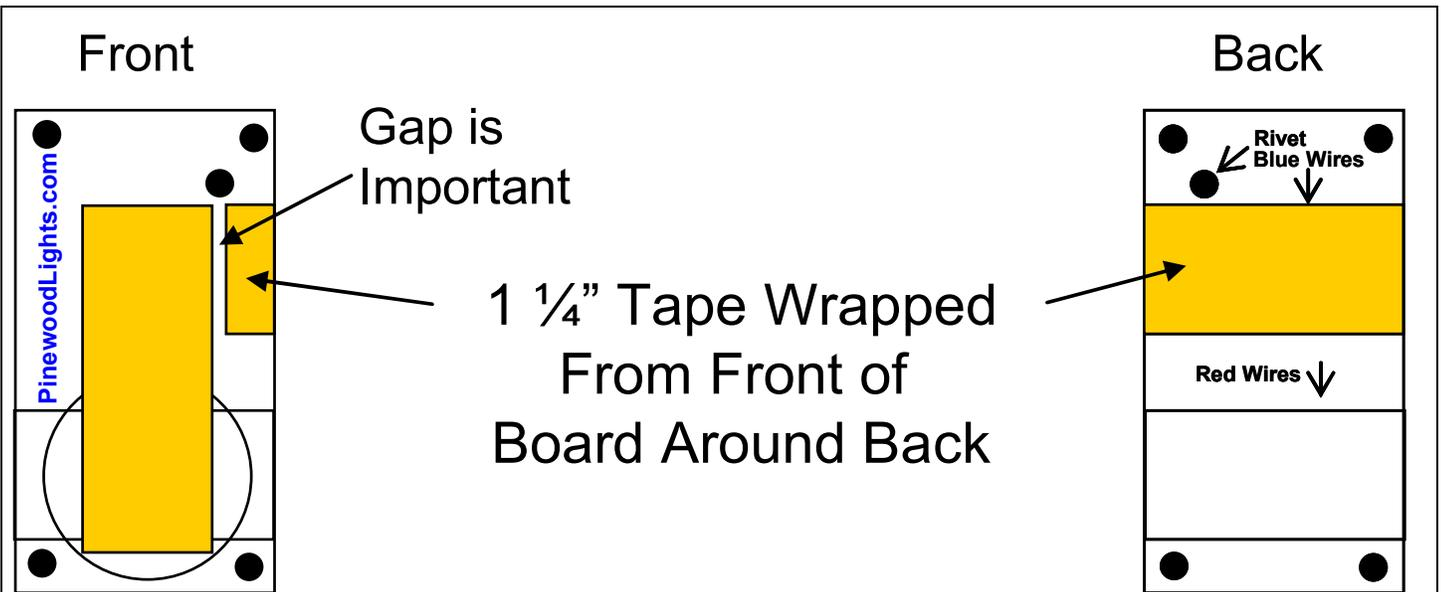

Figure 9.
Step 2: Cut a second piece of copper tape 1 1/4" long, remove the backing and place it as shown in Figure 9. Start at the top left corner of the tape on the front side near the gap and carefully wrap the tape around onto the back of the circuit board following the lines on the back as well.